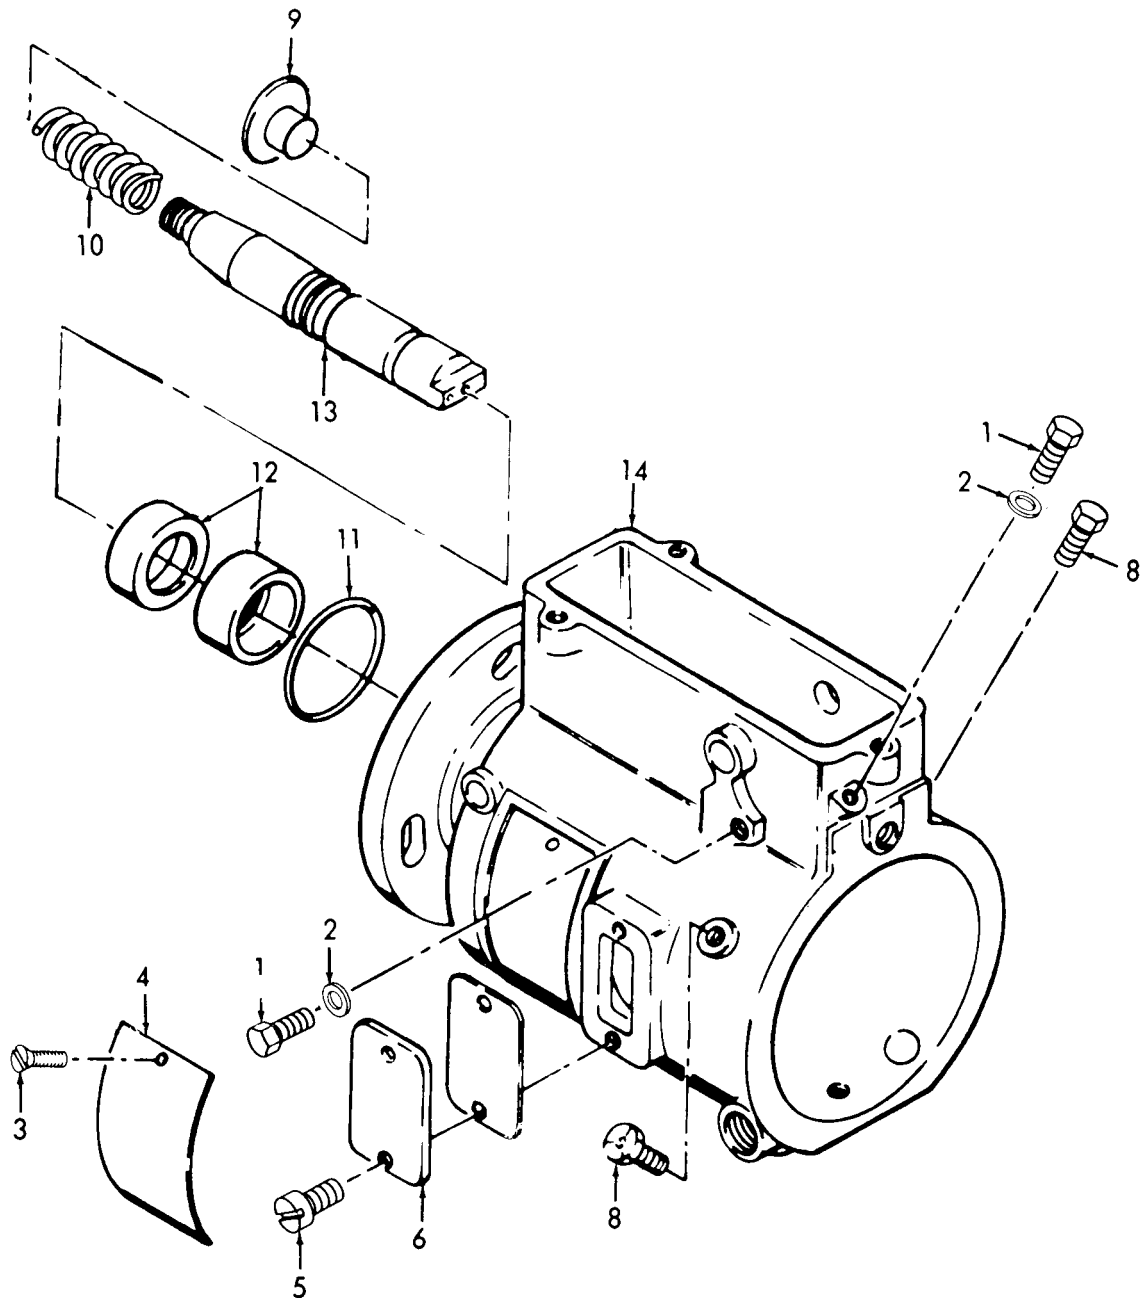

Figure 8-12. Fuel Injection Pump Housing and Drive Shafts.
## LEGEND FOR FIGURE 8-12:
- (19) Install a new seal (11, figure 8-11) on the hydraulic head. Rotate the cam ring so that the unthreaded hole is in line with the metering valve bore to insure proper positioning of the cam. Apply a light film of clean grease around the inside edge of the housing (14, figure 8-12).